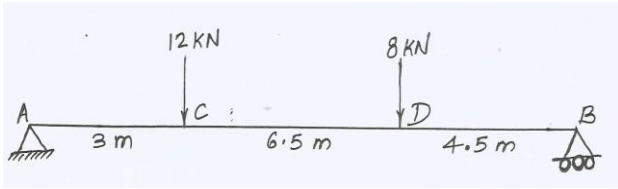

Figure-3
- (c) Determine the deflections under the position of loads for the beam shown in Figure-3. Take $E = 200 \text{ GPa}$, $I = 160 \times 10^6 \text{ mm}^4$. Use any method. **07**